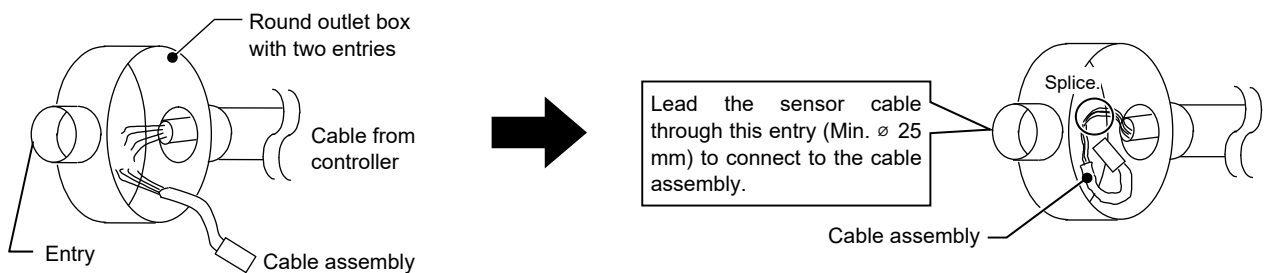

Figure 5. Cable connection example: Splicing the cable assembly
- 3) Splice the cable with the cable assembly, as shown in Fig. 5.